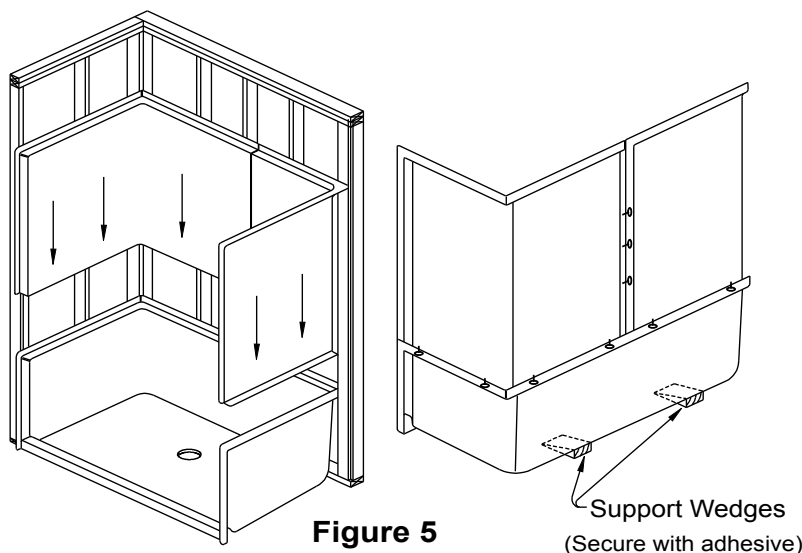
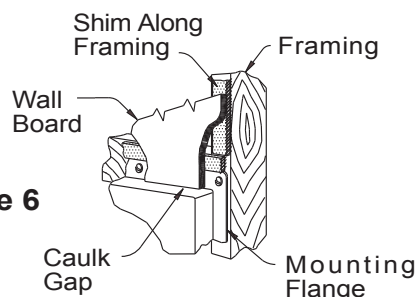

Figure 5
Figure 6
4. Install drain and/or overflow assembly on unit following drain manufacturers instructions. Place the base unit in the install location. Level the unit. Place support wedges under the back edge and secure with adhesive. A minimum of two shims should be used for proper support. (See Figure 5). Re-check level and attach base to framing studs with 6D galvanized screws.
7. Place the walls on top of the wooden blocks. One by one remove the blocks taking care to align the plastic fasteners into the holes in the underside of the walls. For three piece units, install the left wall first. Repeat for the right wall. Press all seams together to assure a tight fit. Wipe away any excess caulking. See Figure 5.
| Model No. | Old No. | Fig 5 | Fig 7 | Fig 6 | A | B | C | D | E | F | G | H | I | J |